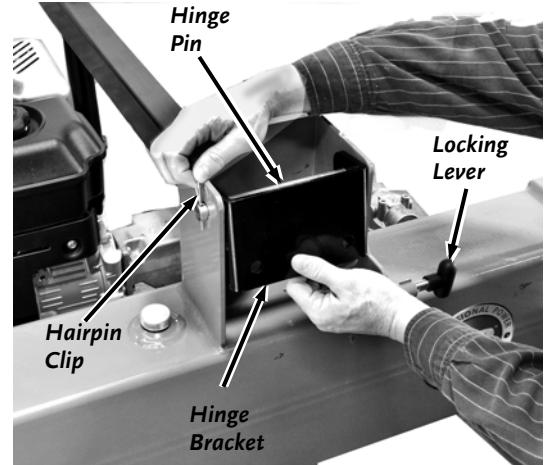

Figure 7
3. While supporting the hinge bracket (**Figure 7**), pull the hairpin clip and remove the hinge pin to separate the hinge bracket.